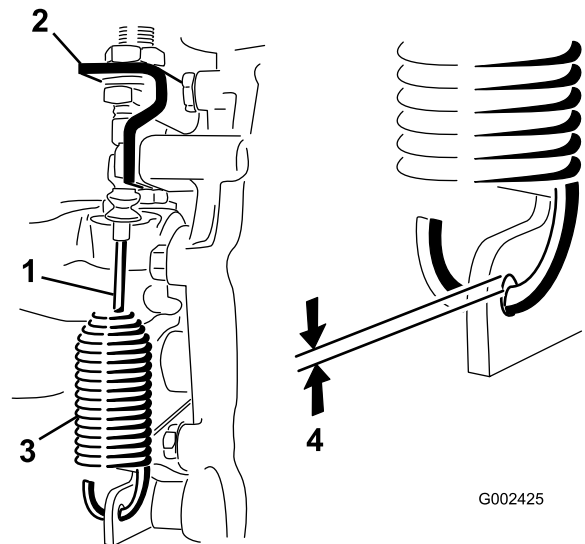

Figure 45
2. Loosen the jam nuts securing the differential-lock cable to the bracket on the transaxle (Figure 45).